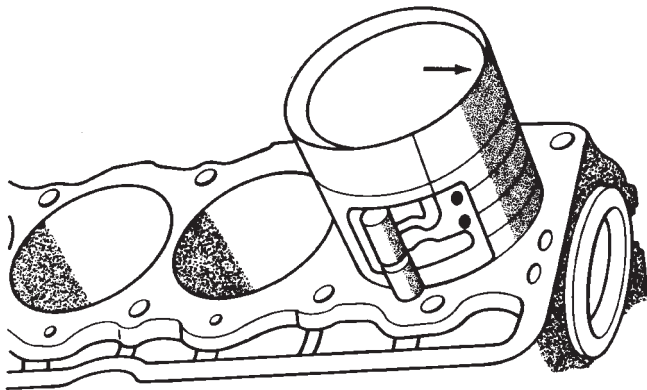

Fig. 54 Rod and Piston Assembly Installation
- (4) Use a piston ring compressor to install the connecting rod and piston assemblies through the top of the cylinder bores (Fig. 54).
(5) Ensure the arrow on the piston top points to the front of the engine (Fig. 54).